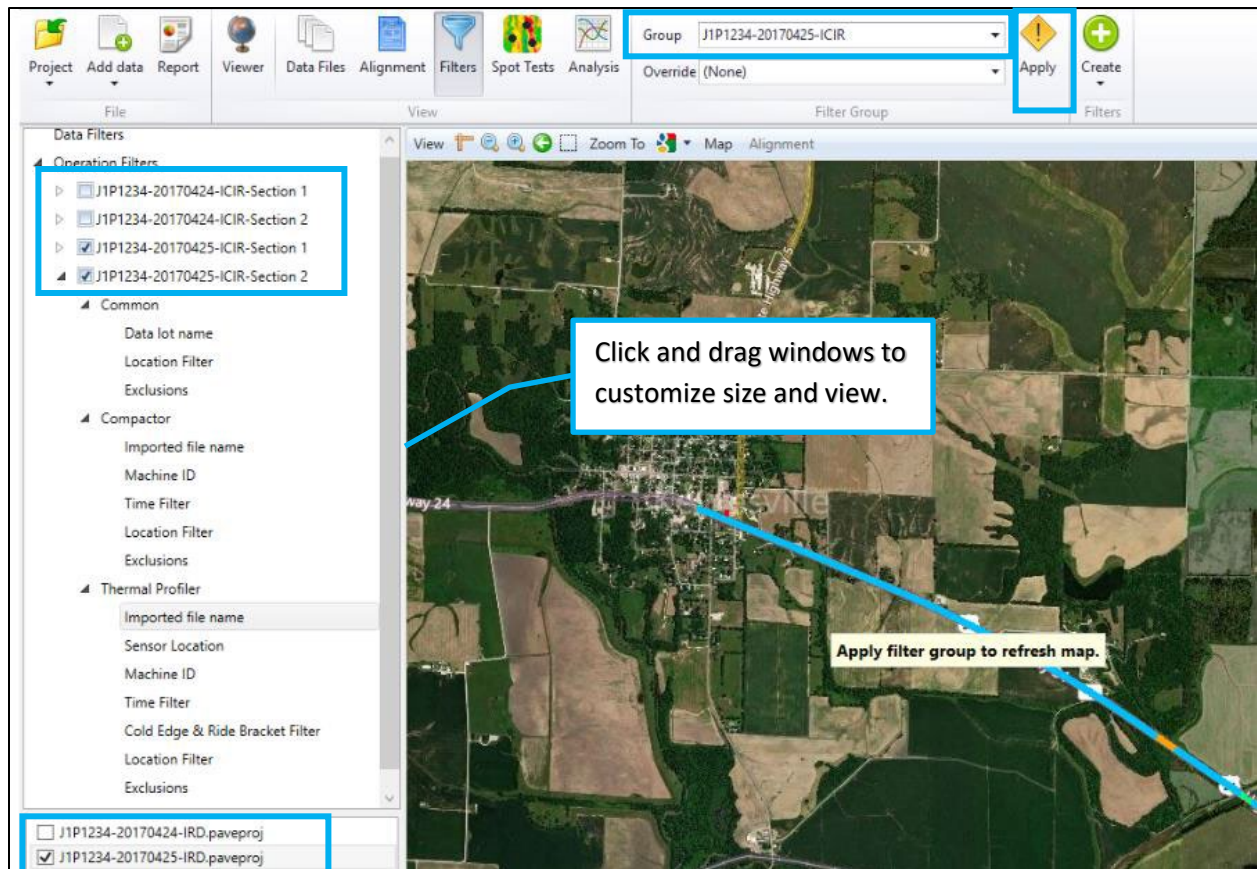

Figure 57. Operation filters are illustrated in the left filter panel.
Step 2. Create two operation filters per filter group for a total of four operation filters. The filter structure is shown in Figure 57.
Note the following observations from Figure 57: